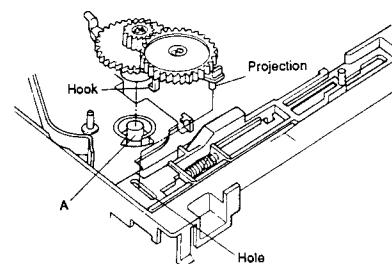

Figure 39
- (2) While keeping procedure (1), insert the projection of Load Gear ass'y into the hole of Slide Lever and the hook into the portion A, as shown in Figure 39, then fasten the hook.